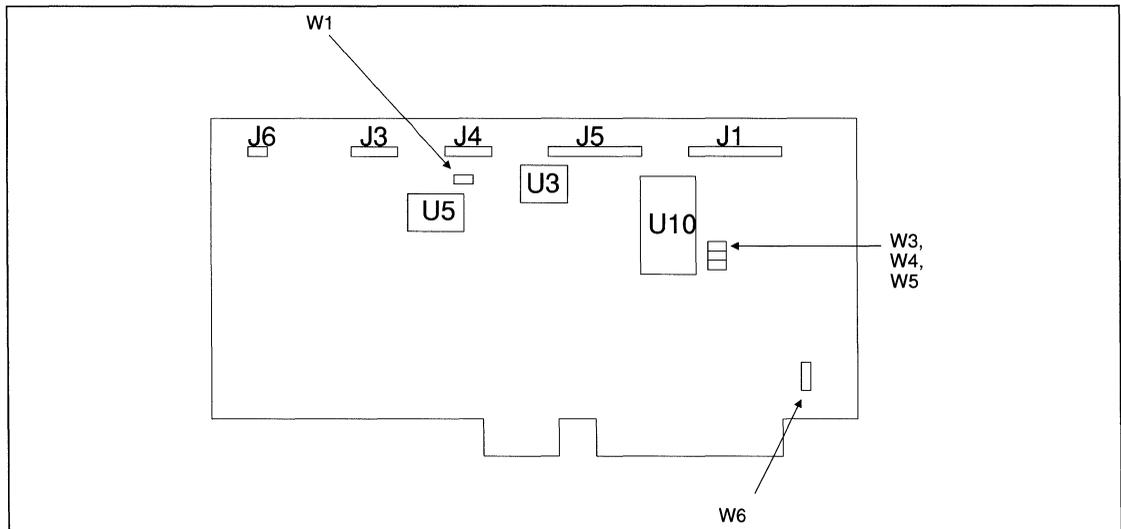

Figure 2. JUMPER LOCATIONS
1. Verify the controller jumper settings. Refer to Table 13 for further information. Figure 2 illustrates the jumper locations on the WD1006V boards.